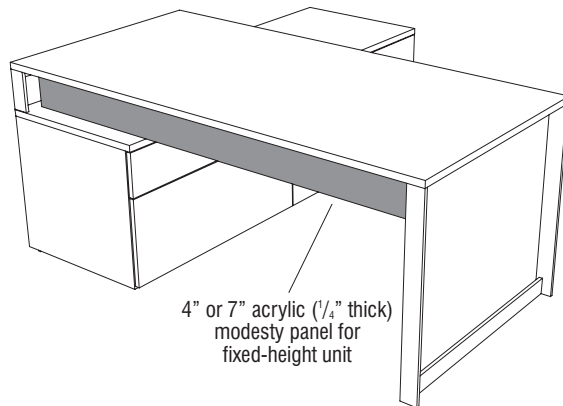

Figure 2
4. Align the mounting holes of the brackets with the marked locations at the underside of the worksurface. Secure the brackets to the worksurface using two #10 x  $\frac{5}{8}$ " Phillips pan head screws per bracket (Figure 2).